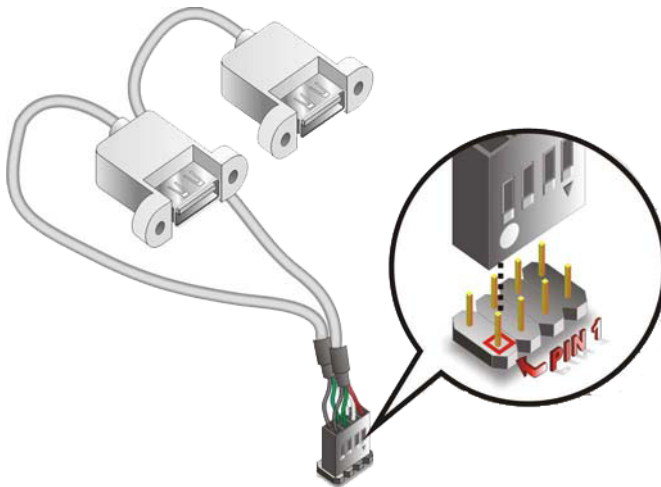

Figure 5-15: Dual USB Cable Connection
Step 3: Insert the cable connectors. Once the cable connectors are properly aligned with the USB connectors on the 3308470, connect the cable connectors to the on-board connectors. See **Figure 5-15**.